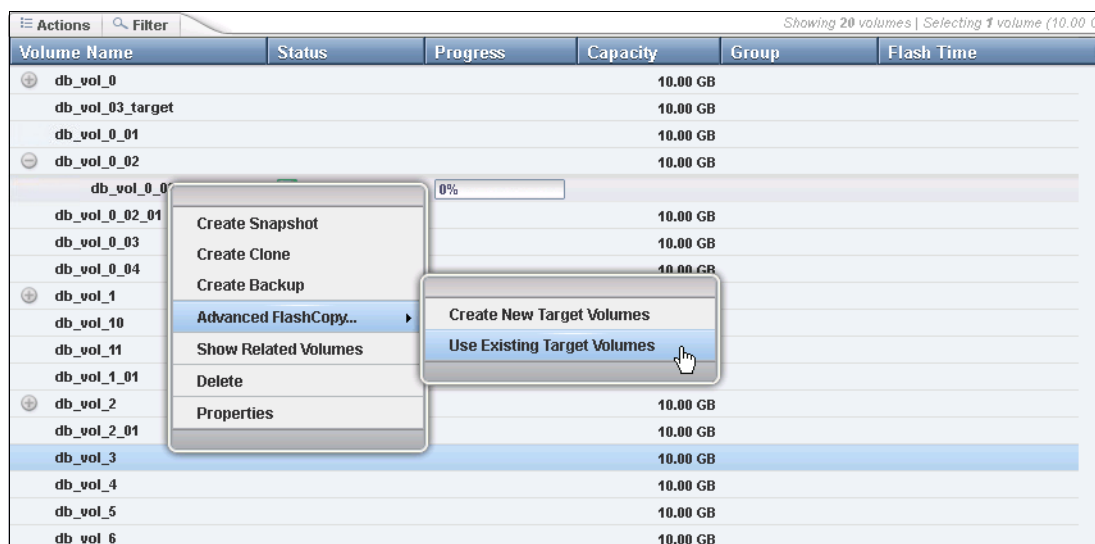

Figure 11-25 Create FlashCopy mapping using existing target volume
1. In the Advanced FlashCopy menu, select **Use existing target volumes** (Figure 11-25).